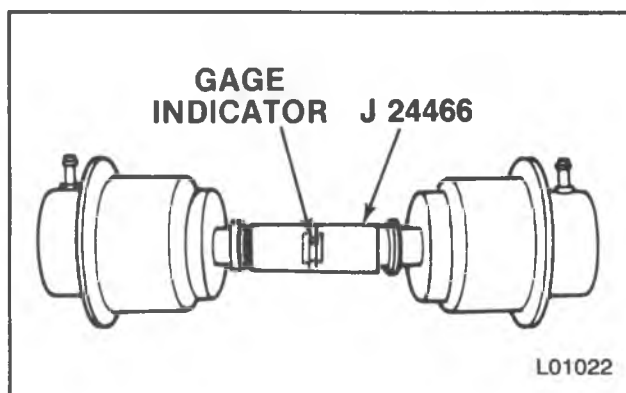

Figure 5 — Checking the Modulator
2. Install the modulator in question on the opposite end of the gage (figure 5).